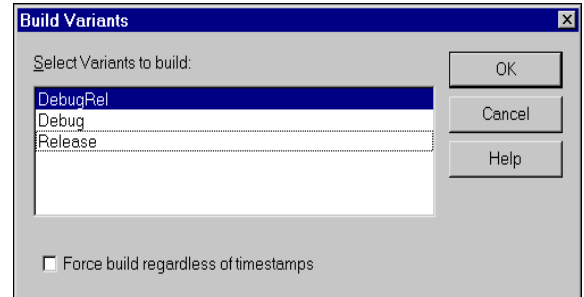

Figure 2-11 Build Variants dialog
1. Select **Build Variants** from the **Project** menu. The Build Variants dialog is displayed (Figure 2-11).